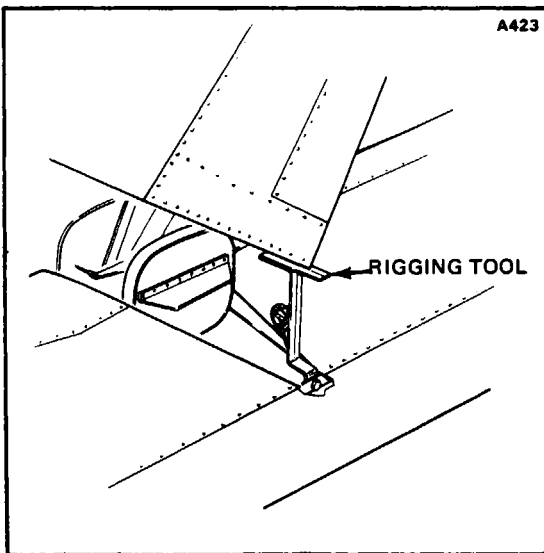

Figure 5-12. Installation of Rudder Aligning Tool (Typical)
g. Attach a fabricated checking tool to the previously mentioned bolt and secure with washer and nut. (Refer to Figure 5-12.) (The tool may be fabricated from dimensions given in Figure 5-19.)